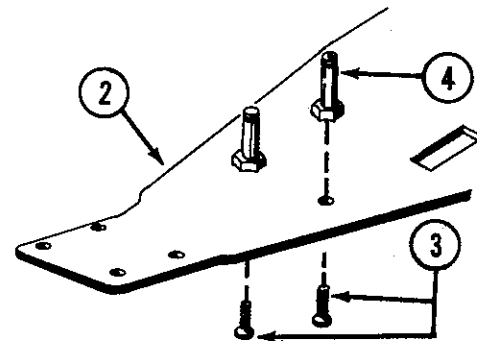

FIG. 2
2. Attach aluminum steering posts (4) to chassis (2) using two 4-40 x 3/8" flathead screws (3). Fig. 2.